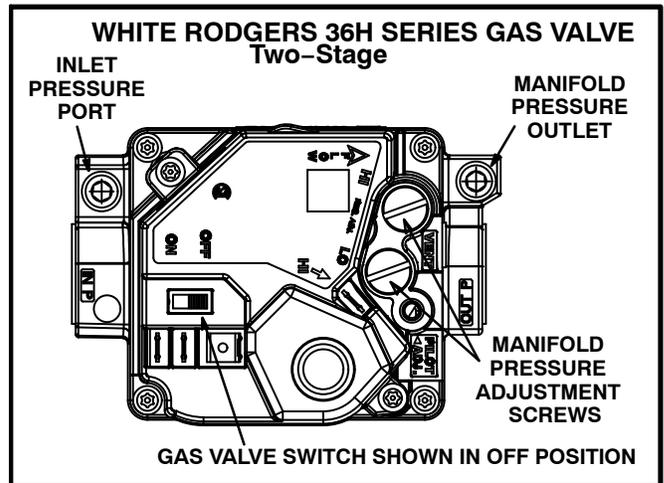
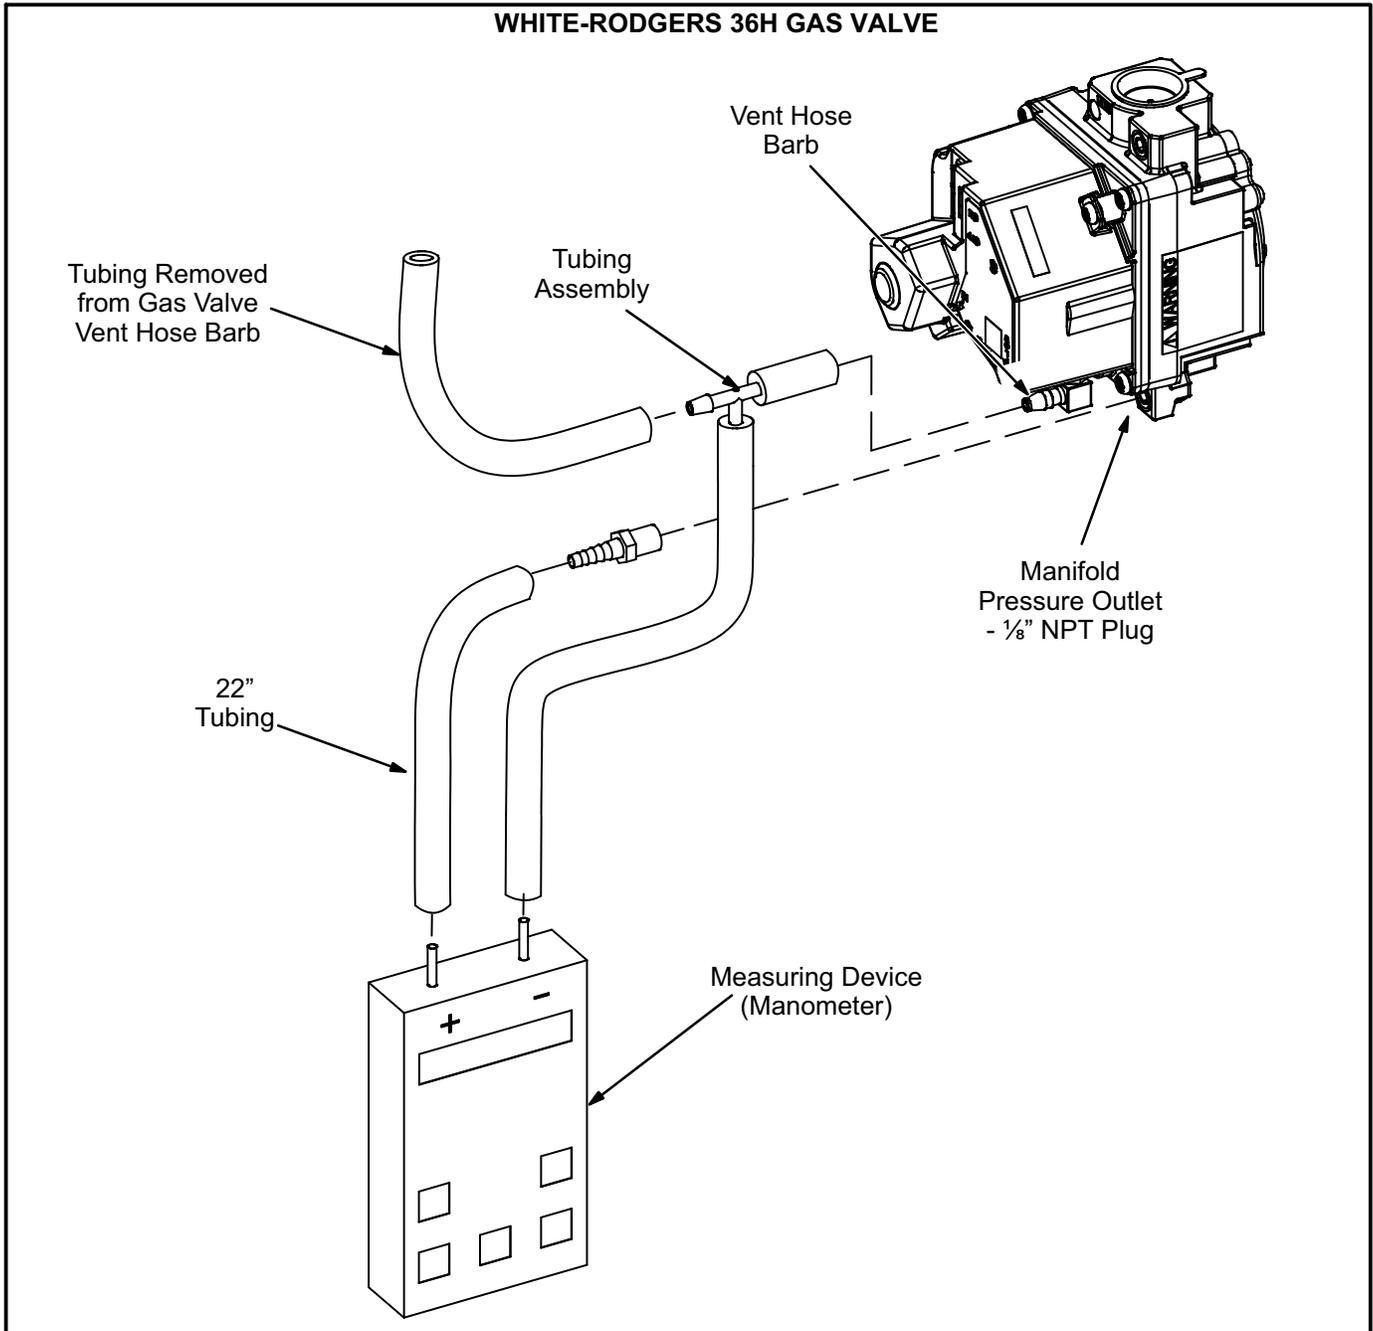

FIGURE 3
FIGURE 4
A 1/8" NPT tapped plug located on the gas valve provides access to the manifold pressure outlet. See figure 3, figure 4, and the following steps.
- 8- If necessary, make adjustments. Figure 3 shows adjustment screw locations. Access adjustment